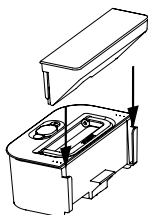

Fig.2
1. As shown in Fig. 2, mount the small dust bin onto the water tank first before use.